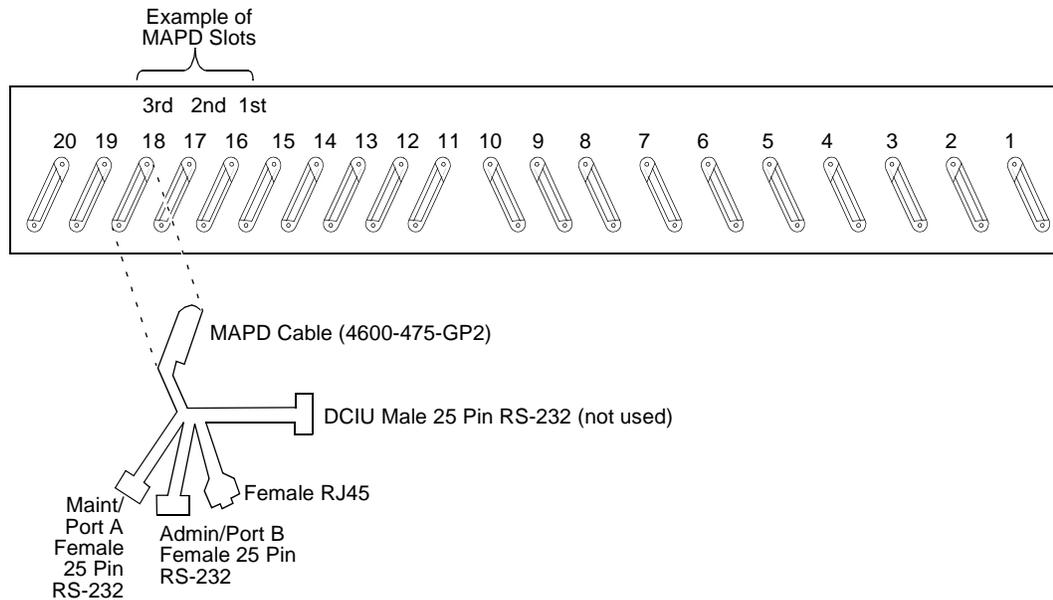

Figure 2-3. Connecting the Adapter Cable, Rear-Panel View
The slots are numbered from left to right on the front panel of the switch cabinet, and from right to left on the rear panel as shown in Figure 2-3, "Connecting the Adapter Cable, Rear-Panel View." The three port slots are occupied by the MAPD system assembly as follows:
2. Referring back to Figure 2-3, "Connecting the Adapter Cable, Rear-Panel View," and the instructions that follow, connect the MAPD system assembly adapter cable to the port connector on the back of the switch.